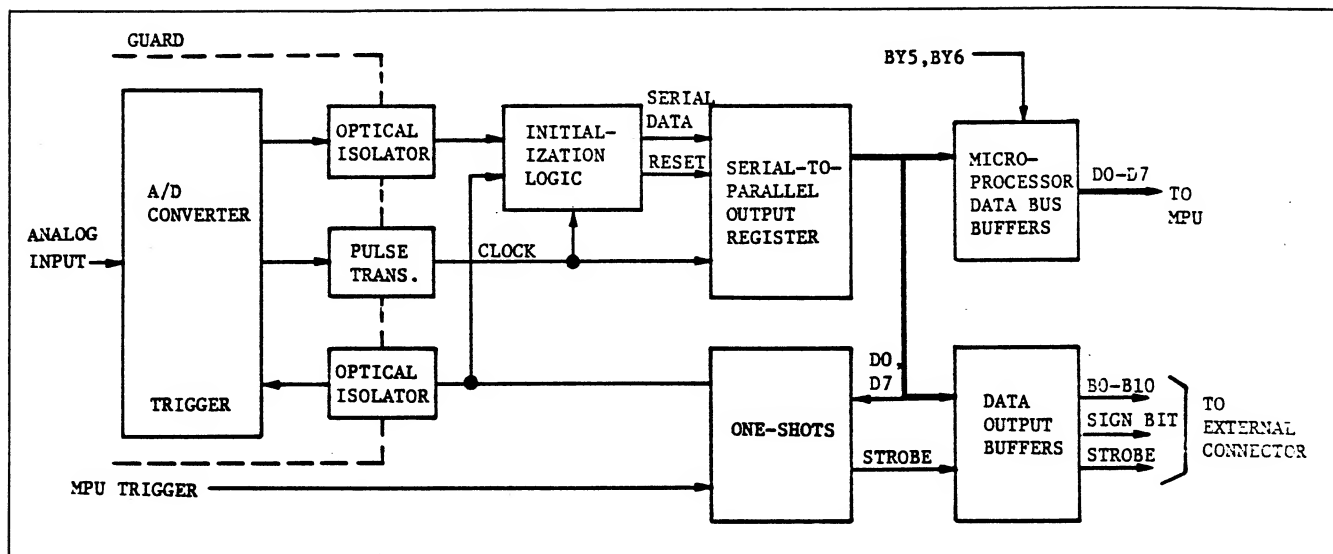

Figure 5.31 - Fast Waveform Digitizer
5.4.3.6.1 The Fast Waveform Digitizer (Figure 5.31) provides for high speed digitizing of analog signals. The circuitry